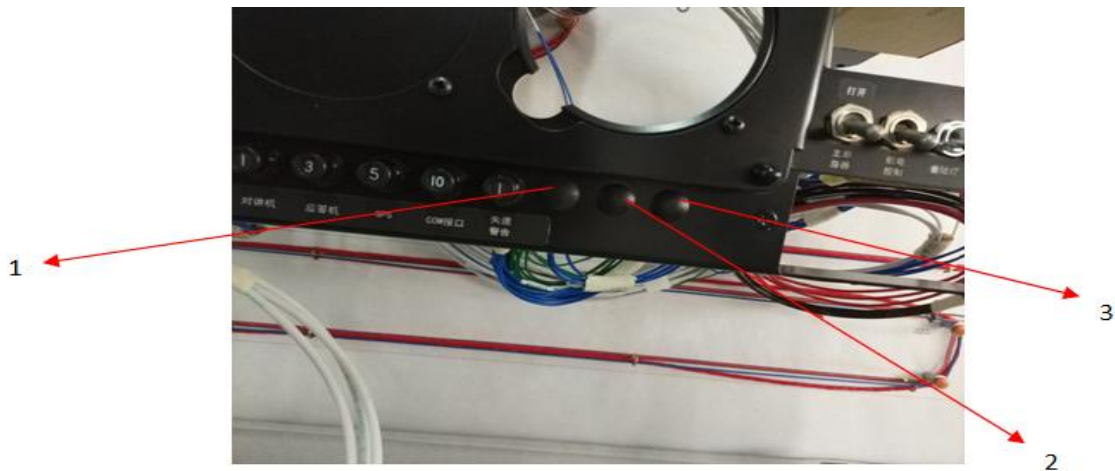
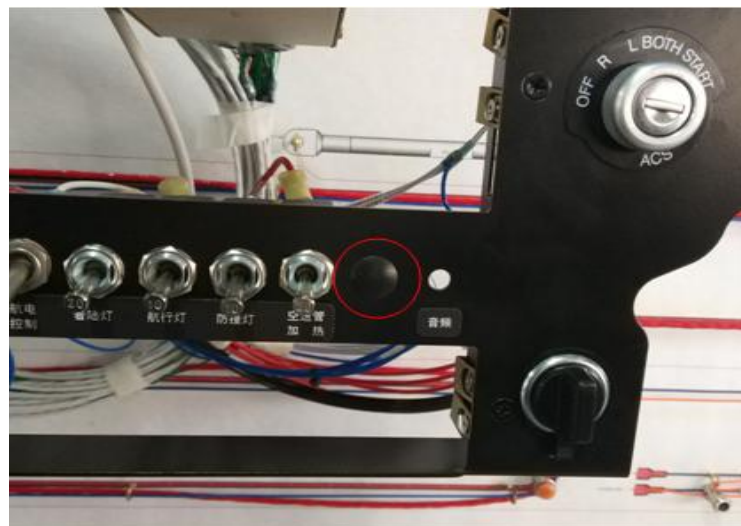

Figure 3
Figure 4 AN3021-2
- 4) Remove the circuit breakers GEAR PUMP 40A/GEAR SELECT 5A/GEAR ADV 2A (Figure 3) and the hand pump light AN3021-2 (Figure 4) from the instrument panel, install the Finishing Plug VP2031-005;